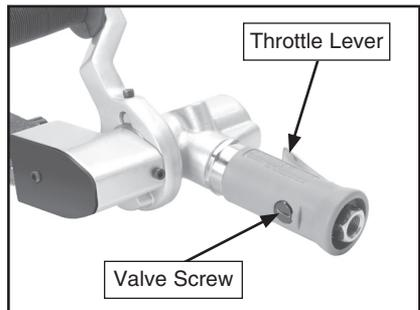

Figure 9. Sander controls.
- Hold the sander securely and push the throttle lever to operate. Turn the valve screw to set the maximum belt speed (**Figure 9**).